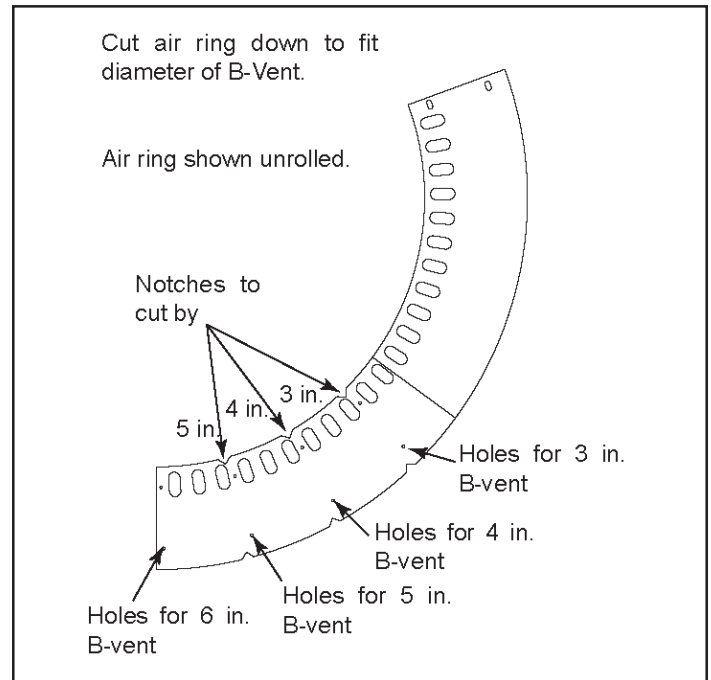

Figure 4 - Air Ring
- Install the air ring if using 6 in. B-vent. Screw the air ring together using the first set of holes. See Figure 4. For 3 in., 4 in. and 5 in. B-vent pipe you will want to cut off the excess overlay then screw together in the holes provided. See Figure 4.